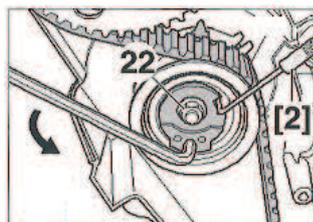

FIG. 2
- Lock pin for the tensioner (FIG. 2) [2].
- ⑤ Loosen the tensioner nut (FIG. 2) [22] and turn the tensioner until your able to place the lock pin (FIG. 2) [2]. Then, dismount the timing belt and the water pump.